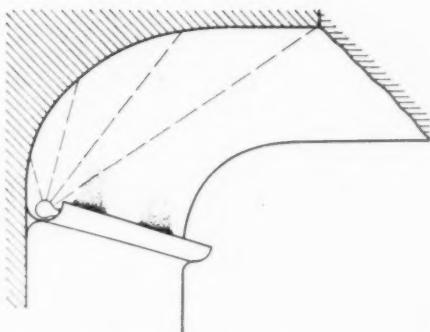

figure 1—projecting trough
*Projecting troughs:* When the cove is constructed as shown in Figure 1 a continuous source of light, such as a row of Lumiline lamps, should be used. Individual lamps, spaced six bulbs or more apart, will produce an undesirable scalloped effect above the cove.